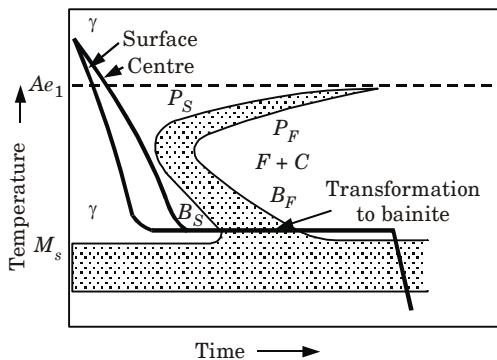

Fig. 13. Heat treatment cycle for austempering.
5. Heat treatment cycle for austempering is shown in (Fig. 13).